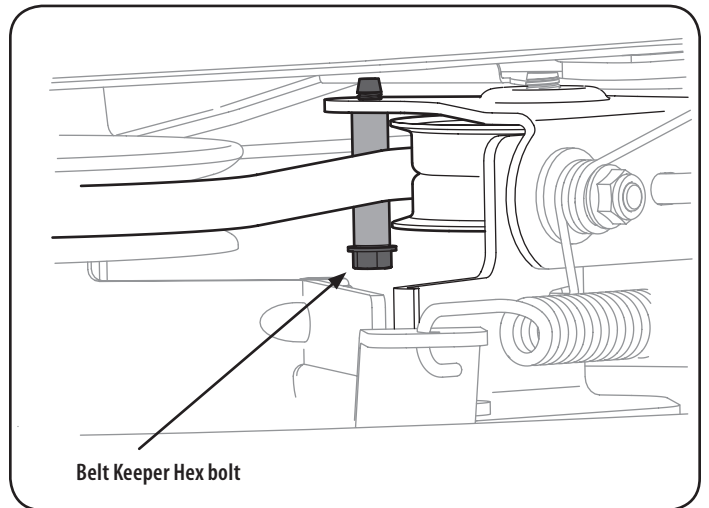

Figure 38
- Remove the belt keeping spacer by removing the hex bolt that secures it. See Figure 38.